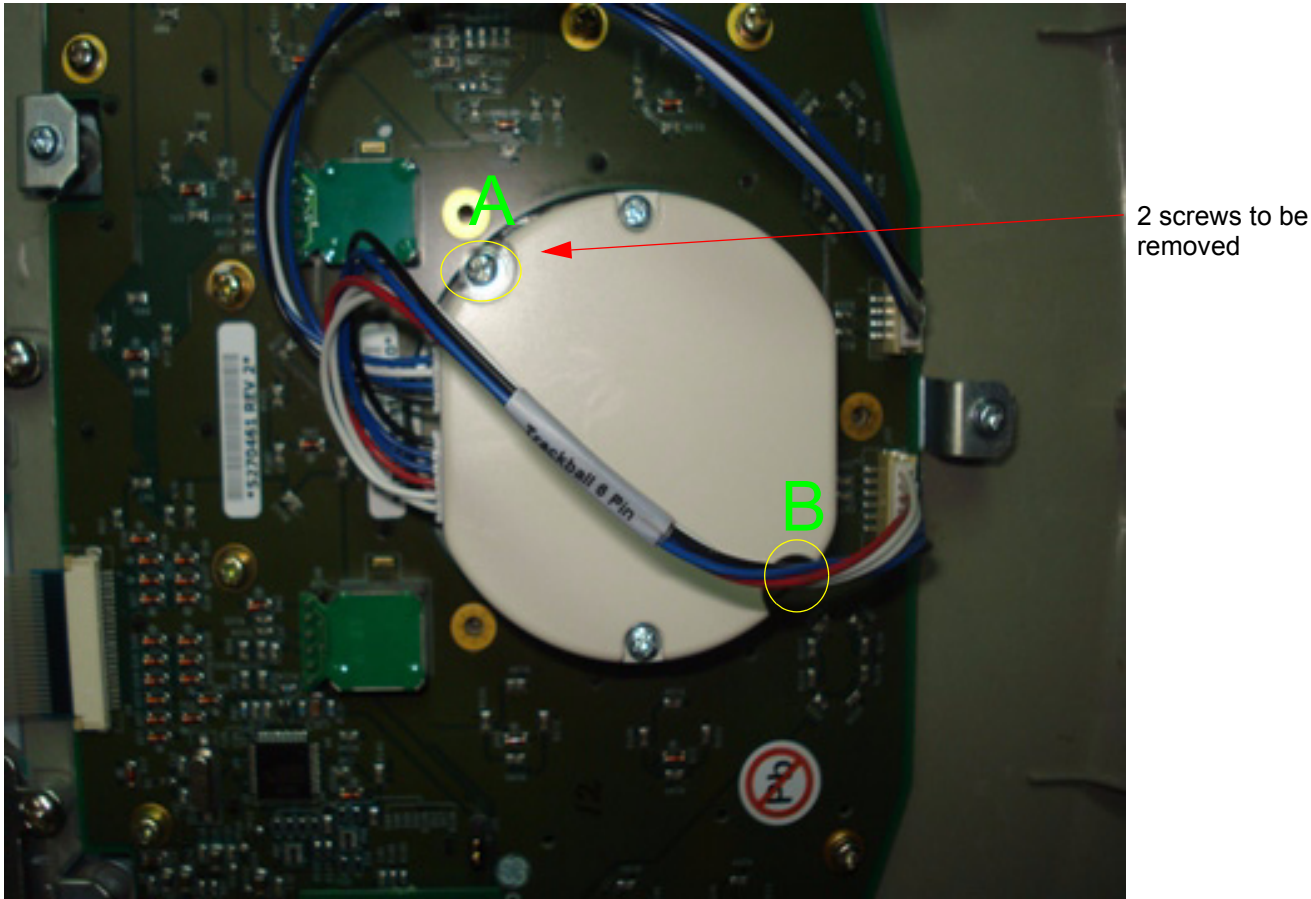

Figure 8-16 Optical Trackball Assembly
2) Unfasten the 2 screws (A,B) holding the trackball bracket (circled in Yellow color in Figure 8-16 on page 8-20 )
3) Remove Trackball assembly with Trackball Interface cable. Refer Figure 8-16 on page 8-20